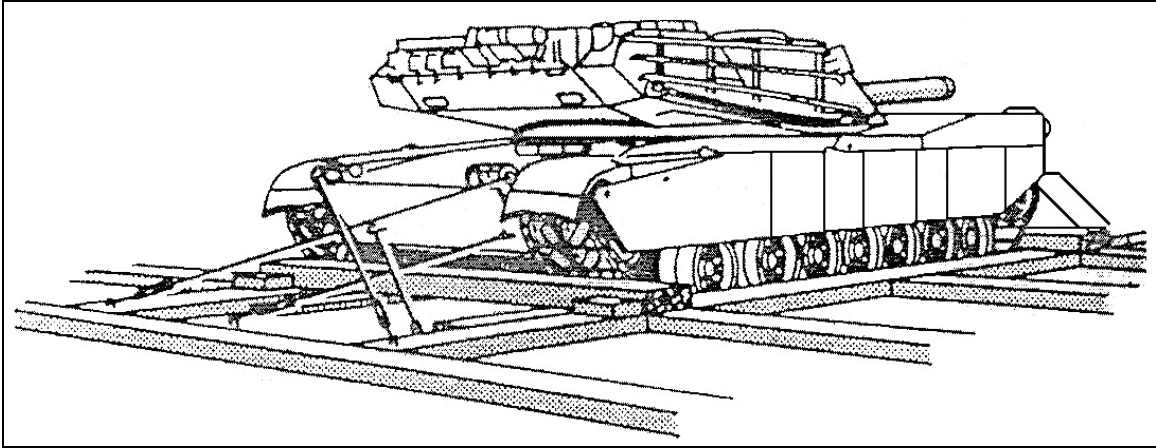

Figure 3-69. Stowing Tracked Vehicle
2. Stow tracked vehicles aboard a cargo vessel (see Figure 3-69).